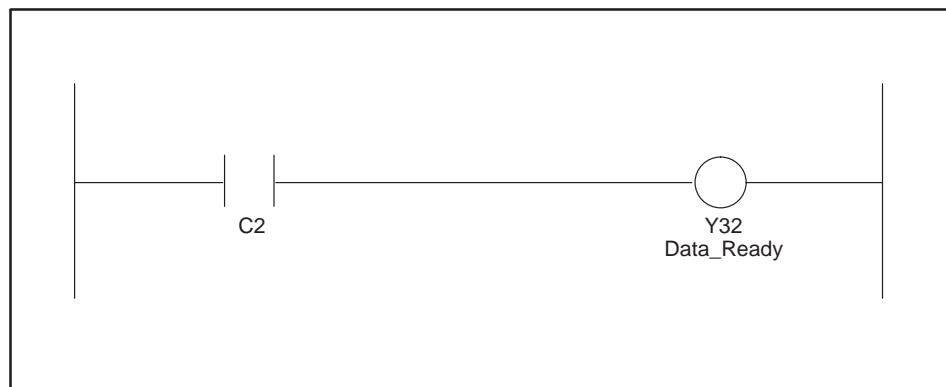

Figure 3-10 The Data\_Ready Bit
- Y32 Data\_Ready is energized to transfer the word data into the module (see Figure 3-10).